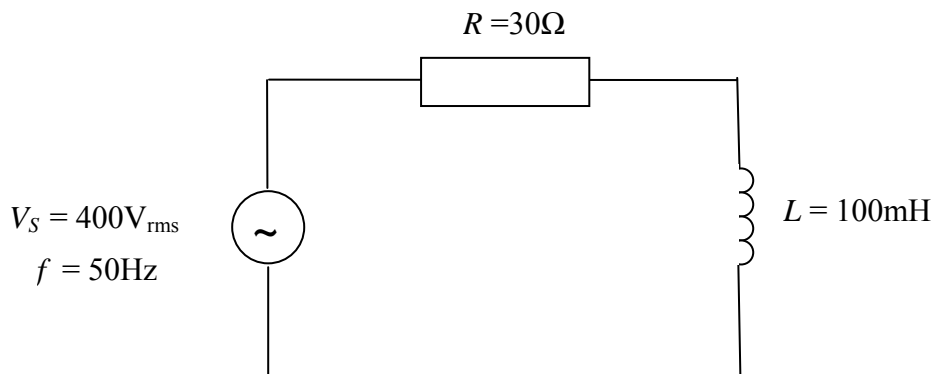

Figure 2.1
- (ii) Calculate the current in the primary winding and the power dissipated if the load across the secondary now comprises a resistance of 40Ω in series with an inductance of 150mH . (3)
- (iii) For the case described in part (ii) above, what would be the input power factor and the required VA rating of the transformer? (1)
- (iv) If the maximum core flux of the transformer is 5mWb calculate the actual number of turns on the primary winding. (1)
- (v) If the transformer were to be operated in a country where the supply frequency is 60Hz , what is the maximum permissible supply voltage without the maximum core flux of 5mWb being exceeded? (1)
- a. The coil of an electromagnet can be modelled as a resistance, $R = 30\Omega$ in series with an inductance, $L = 100\text{mH}$. The electromagnet is connected to a 400V_{rms} , 50Hz sinusoidal supply, V_S , as shown in Figure 2.1.